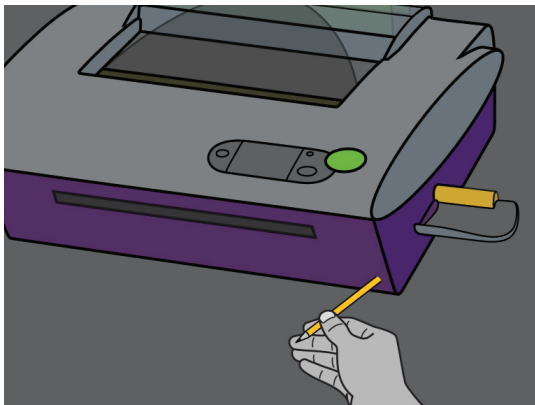

FIGURE 28
3. Open the machine by pushing the eraser end of a pencil (or similar object) through the hole in the lower right corner of the machine (figure 28) until the machine cover pops open slightly.